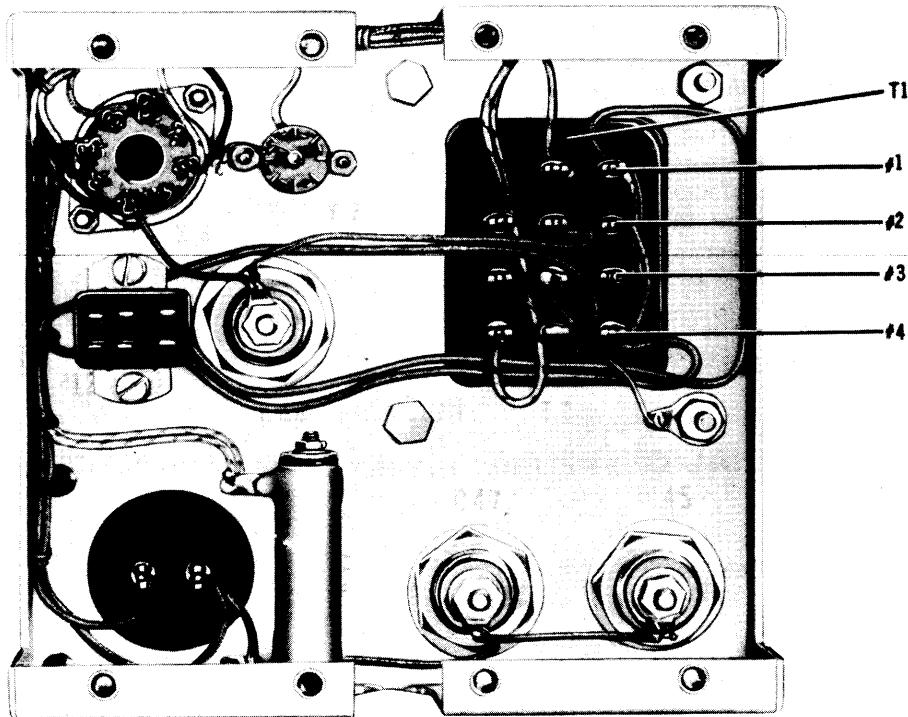

Figure 4-1. Power Supply Chassis, Bottom View
d. Replace individual part in the power supply (see figure 4-1), as required.